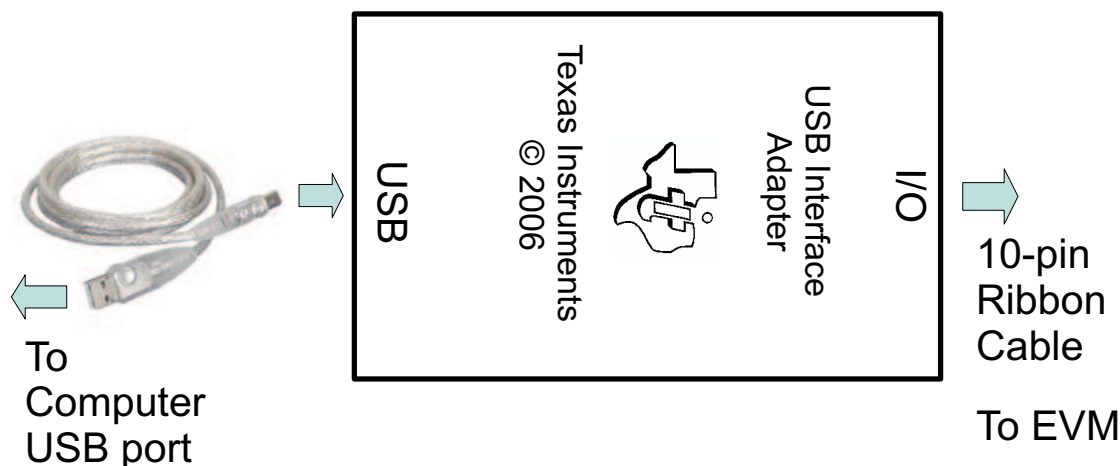

Figure 1. Connections of the HPA172 Kit
- Connect J5 to HPA172 kit by 10-pin ribbon cable. Connect the USB port of the HPA172 kit to the USB port of the computer. The connections are shown in Figure 1.